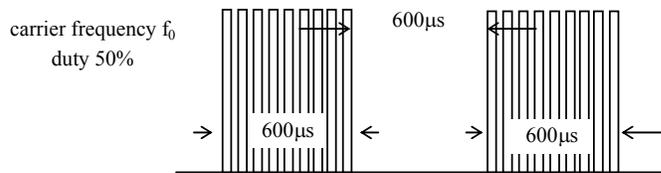

Fig 1. Burst Wave
- (1) Measuring placeIndoor without extreme reflection of light.
- (2) Ambient light source... Detecting surface illumination shall be 200±50Lux under ordinary hite fluorescence lamp of no high frequency lighting.
- (3) Standard transmitter ... Burst wave indicated in Fig 1. of standard transmitter shall be arranged to 50mVp-p under the measuring circuit specified in Fig 2.